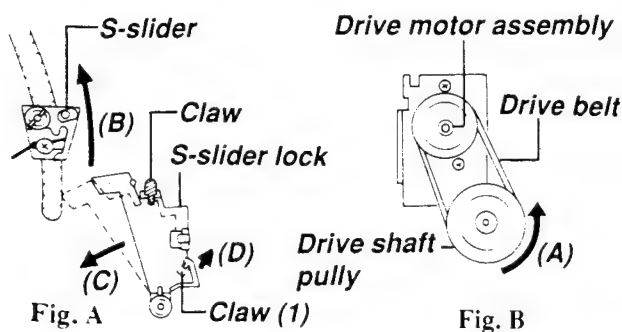

Fig. 4-10-2
2. Remove the tension regulator assembly. (Refer to item "1-4-26. (1) Tension Regulator Assembly Replacement").
3. Turn the drive shaft pulley in the direction of the arrow(A) and move the S-slider from the S-slider lock in the direction of the arrow (B) (Refer to Fig. 4-10-2 A and B.)
4. Remove the S-slider lock by turning it in the direction of the arrow (C) and moving the claw (1) in the direction of the arrow (D).